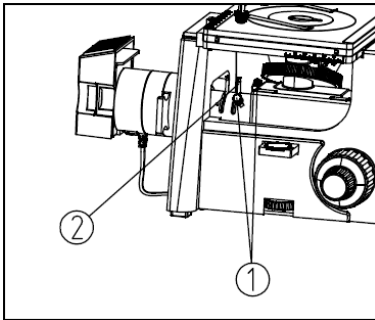
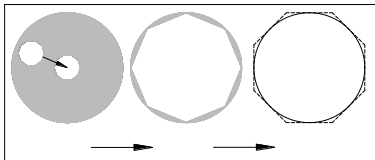

Fig.17
Fig.18
- (1) Turn the pole ② for field diaphragm adjusting to the most left with counter clockwise to make the field smallest. (Fig 17)
- (2) Through the eyepieces, here you can find the image of field diaphragm.
- (3) Adjust the both centering screws ① of field diaphragm to make the diaphragm image to the center.
- (4) Open the field diaphragm slowly, if the field inscribed with its image, it indicates the diaphragm centered. (Fig 18)
- (5) Please increase the diaphragm a little during operation to make the field as circumcircle with its image.